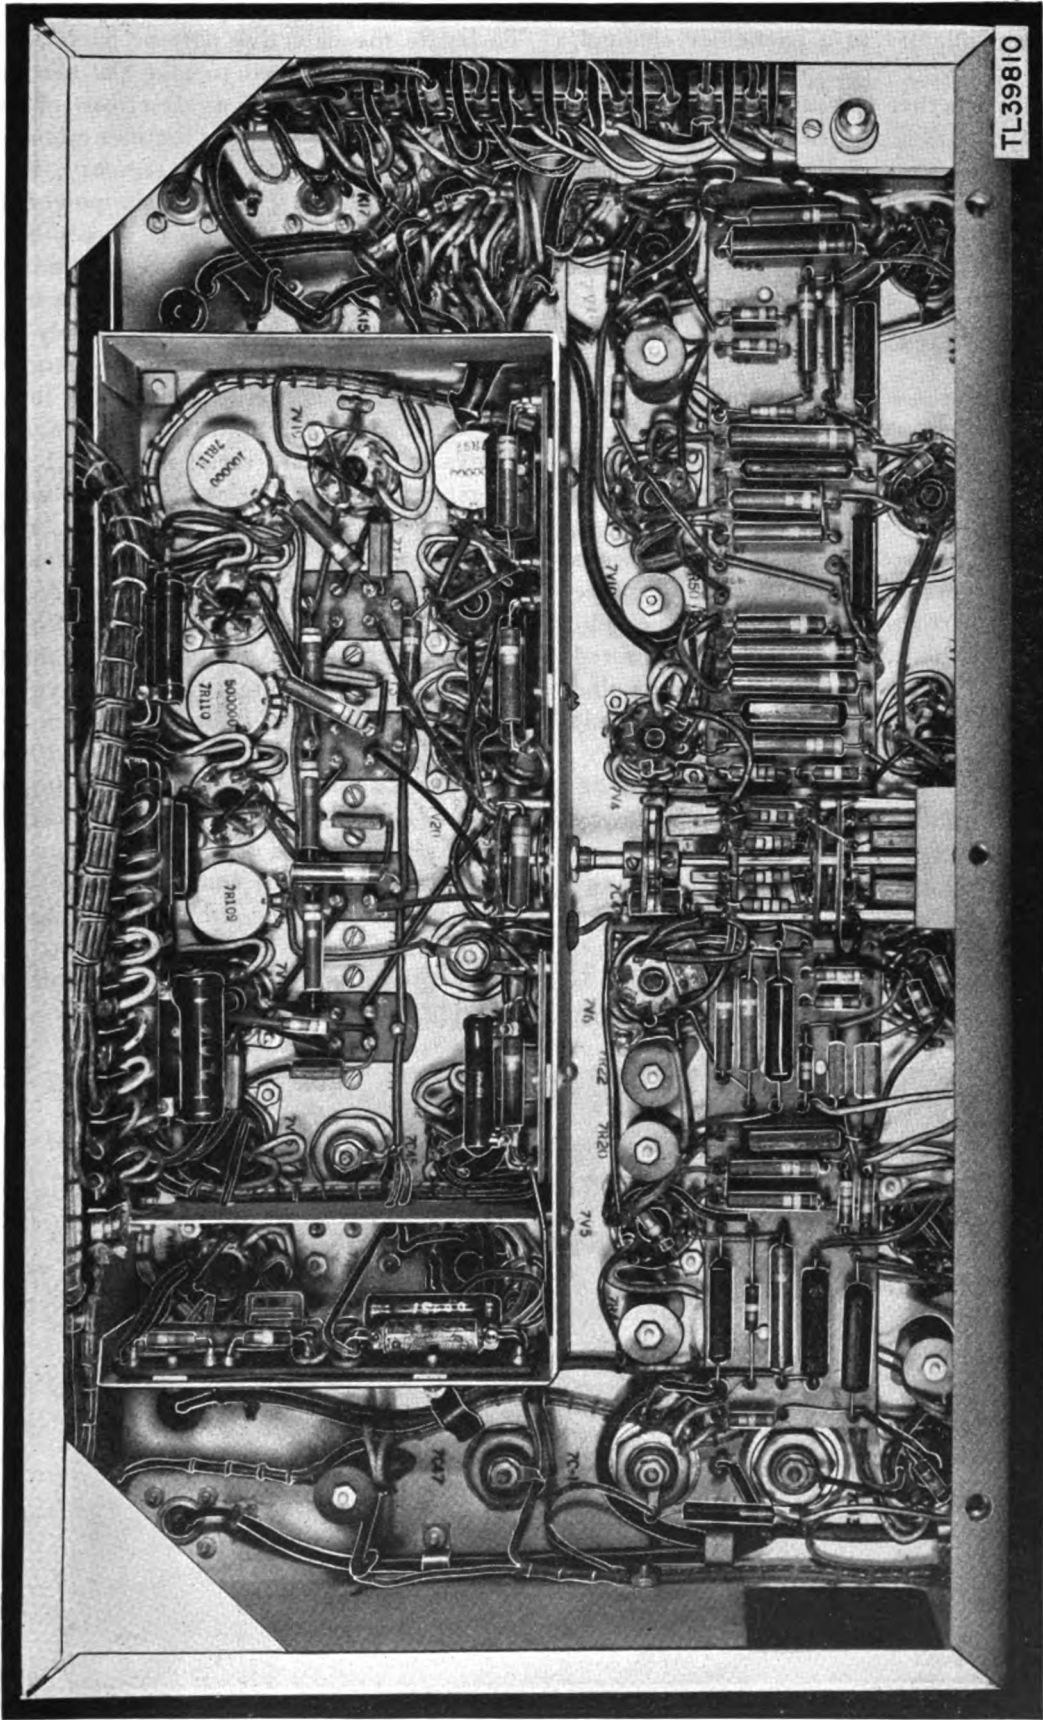

Figure 191. Indicator Control BC-1193-A, under side of chassis.
- i. Figure 191, Indicator Control BC-1193-A, under side of chassis.
help trace the difficulty to a particular channel, perform the following voltage checks to determine definitely whether the power unit is defective. The output voltage of the power supply can be read at terminal board 7-K-5 in the under side of the indicator control tube shelf (fig. 191). Make sure a jumper is connected across door interlock switch 7-S-5 while making the following checks on terminal board 7-K-5.